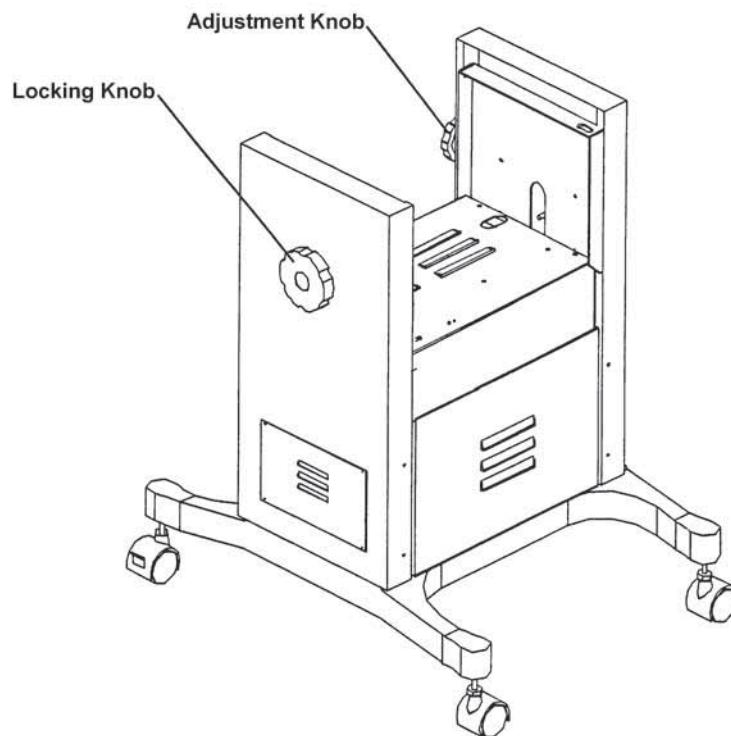

Figure 4
16. Roll Feeder up to Duplicator. Adjust height of Conveyor to match Duplicator Front Apron. If Feeder Front Stop Plate Hook is not even with upper edge of Duplicator's Front Apron, adjust Feed Stand. **To adjust Stand height [Figure 4]:** Loosen two knobs on either side of Stand. Turning locking knobs counterclockwise unlocks Stand, which allows it to be adjusted. Adjust height by turning third knob (*Adjusting Knob*) clockwise to raise height of Stand, and counterclockwise to lower it. Tighten locking knobs after height is adjusted. If Feeder is to be used on more than one Duplicator, adjust Duplicators to one height (*eliminating additional set up time*).